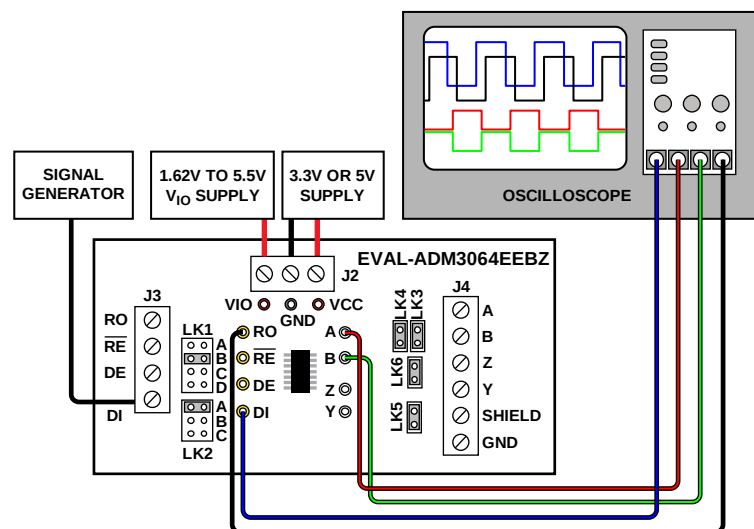

Figure 3. Full Duplex RS-485 Loopback Test
To set up a loopback test for the EVAL-ADM3064EEBZ, connect the benchtop power supply to the VCC and VIO terminals of the J2 connector. Close the LK4 and LK6 jumpers. This test setup is shown in Figure 3. A signal generator is connected to the DI pin to allow verification of the bus signals and the receiver output. Note the jumper positions of LK1 (B) and LK2 (A) for the EVAL-ADM3064EEBZ. Ensure that the LK3 and LK5 jumpers are also closed. The default termination resistors can be used in this configuration because both 120  $\Omega$  resistors on the EVAL-ADM3064EEBZ are connected in parallel by the loopback. These connections ensure that the test is conducted with a standard RS-485 load of 60  $\Omega$  with the bus terminated at both ends by 120  $\Omega$ .